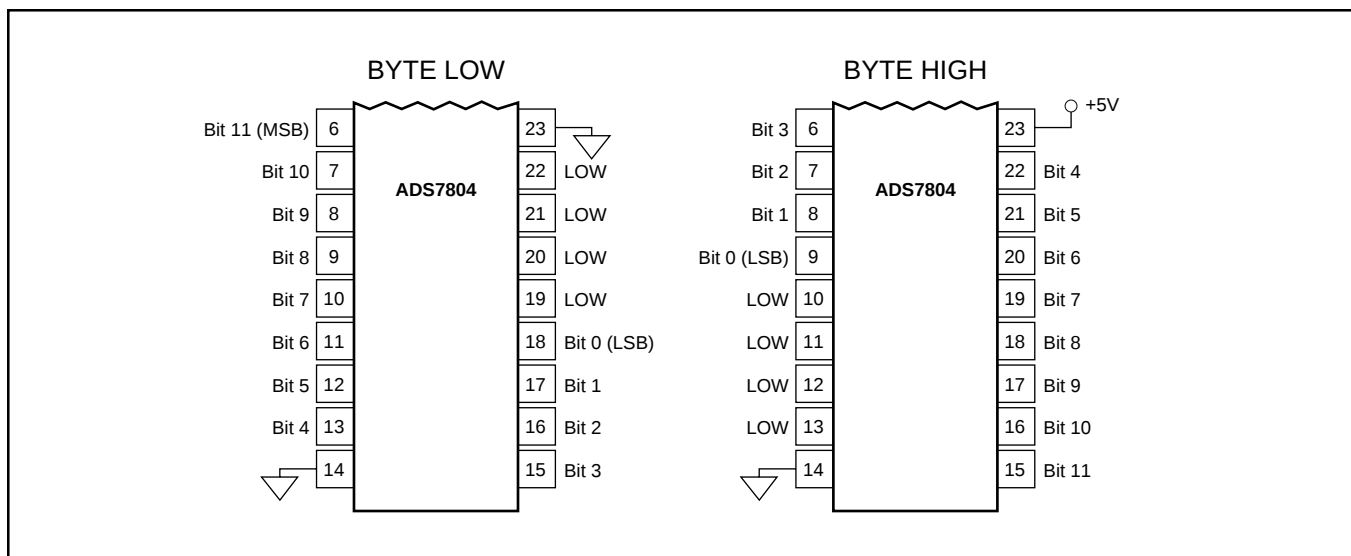

FIGURE 2. Bit Locations Relative to State of BYTE (pin 23).
NOTE: (1) See Figures 2 and 3 for constraints on data valid from conversion "n-1".
The ADS7804 outputs full or byte-reading parallel data in Binary Two's Complement data output format. The parallel output will be active when $\overline{R/C}$ (pin 24) is HIGH and $\overline{CS}$ (pin 25) is LOW. Any other combination of $\overline{CS}$ and $\overline{R/C}$ will tri-state the parallel output. Valid conversion data can be read in a full parallel, 12-bit word or two 8-bit bytes on pins 6-13 and pins 15-22. BYTE (pin 23) can be toggled to read both bytes within one conversion cycle. Refer to Table III for ideal output codes and Figure 2 for bit locations relative to the state of BYTE.